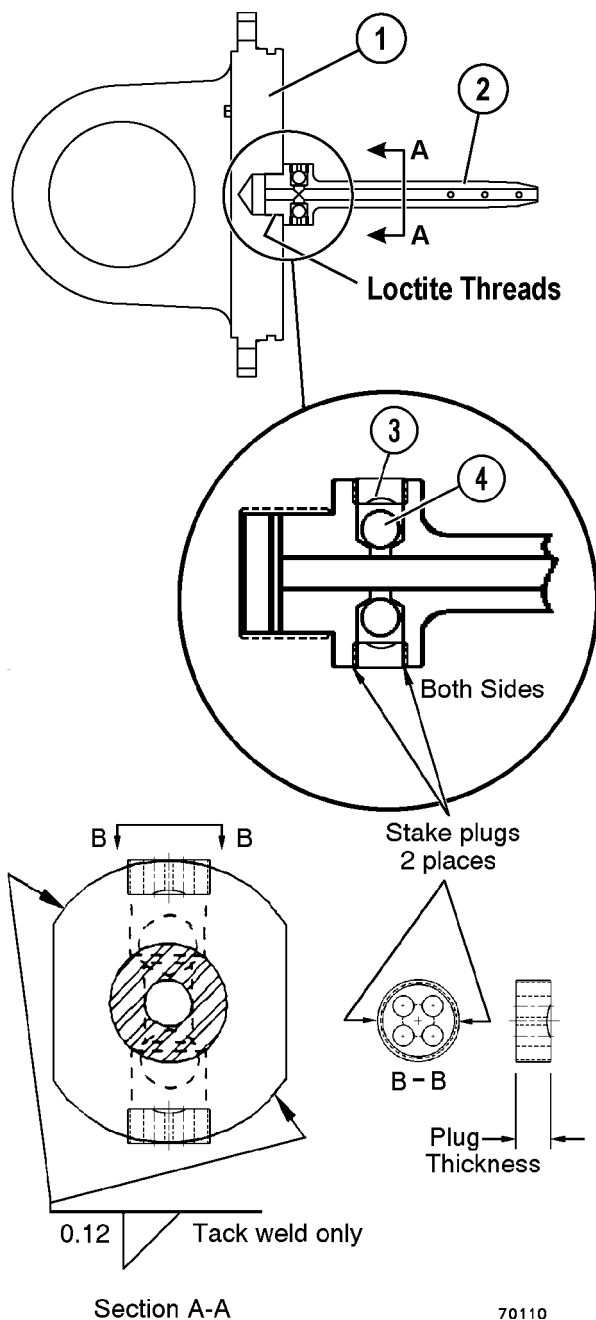

FIGURE 50-52. QUILL ASSEMBLY INSTALLATION
1. Inspect plugs (3, Figure 50-52) and check balls (4) in the quill to ensure that the plugs are tight and the ball seats are not damaged. Refer to "Installation of check balls and plugs in quill" on the next page.
2. Secure cap assembly (1) in a sturdy fixture. Ensure that the threads in the cap and the threads on the quill are clean, dry and free of oil and solvent.
3. Spray the mating threads of both cap assembly (1) and quill assembly (2) with LOCQUIC® Primer T (Komatsu part number TL8753) or equivalent. Allow the primer to dry for three to five minutes.
6. Tack weld the quill in two places as shown in Figure 50-52.